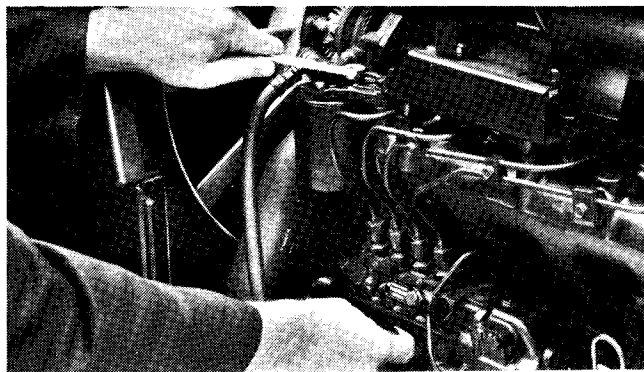

Figure 9
3. Loosen air vent plug on engine fuel filter approximately 1-1/2 turns (Fig. 9).
4. Rotate priming pump counterclockwise until spring in pump releases and handle extends. Operate pump up and down until a solid stream of fuel flows out around filter plug, then tighten plug (Fig. 9).